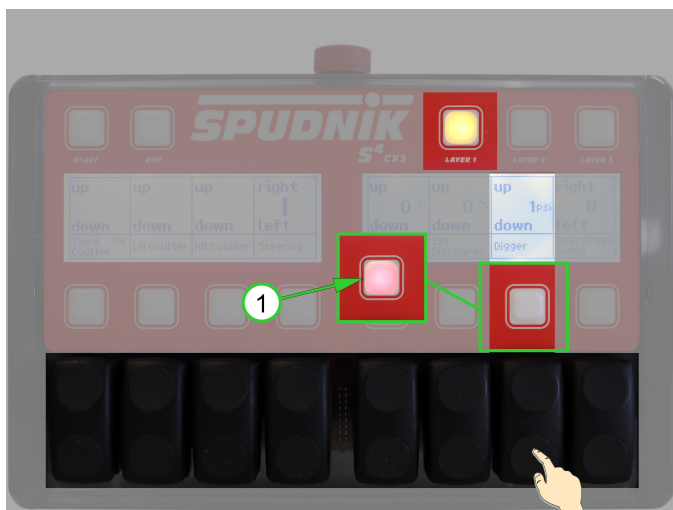

Figure 33
Press **LAYER 1** rocker switch 7 (*Digger*) down to lower the digger nose. The (1) soft key illuminates and the digger nose powers down for as long as the rocker switch is held. Upon releasing **LAYER 1** rocker switch 7 (*Digger*), the digger nose enters Ridge Relief. (See Figure 33)